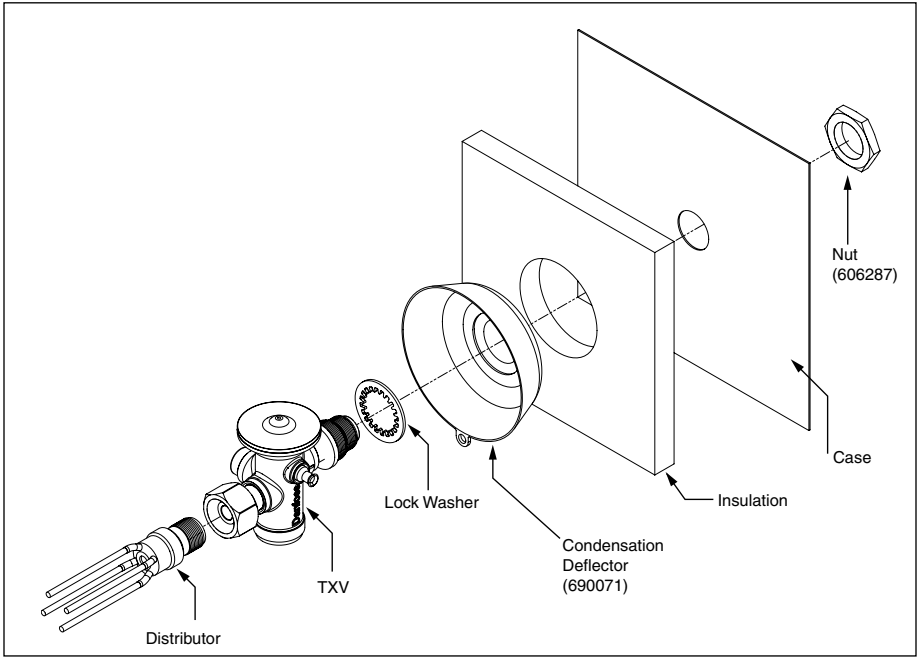

Figure 3. Condensation Deflector Positioning
6. When included, install condensation deflector and lock washer onto TXV. Condensation deflector is to be installed so that any condensation collecting on the TXV is directed away from the cabinet insulation and towards the drain pan. Fix TXV into position using nut. See Figure 3. Condensation deflector is not required if TXV is not installed directly on cabinet.